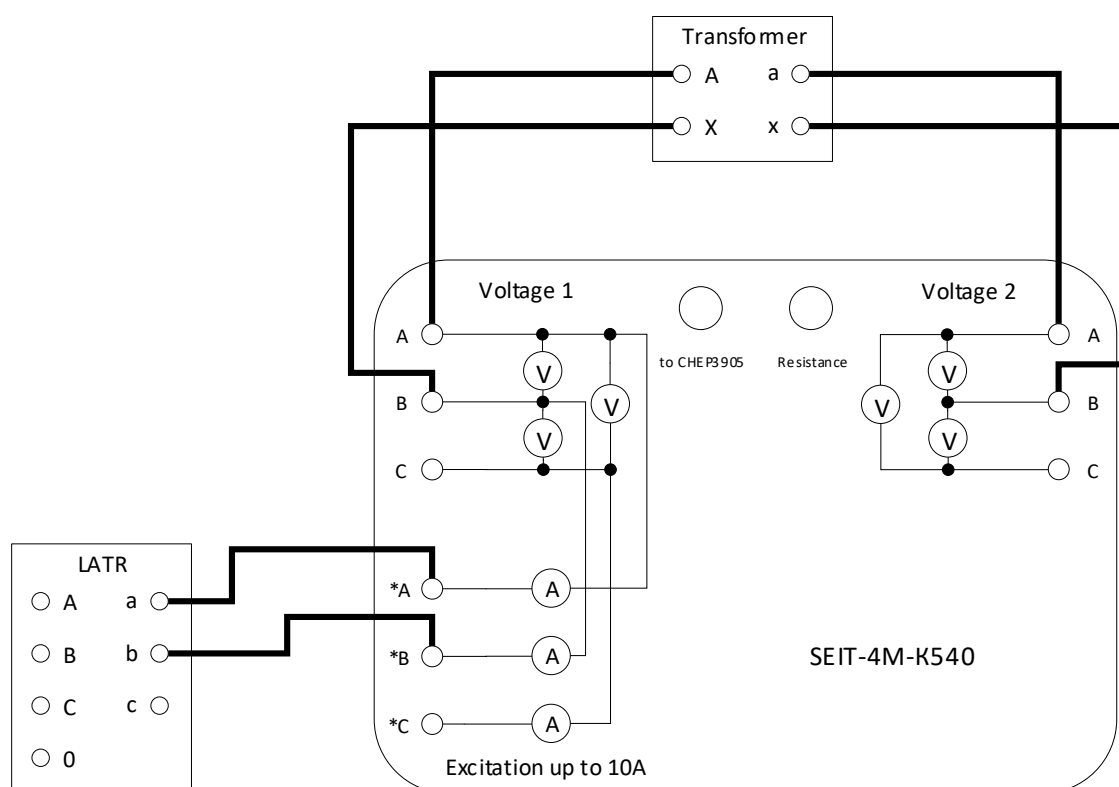

Fig. 8. Single-Phase Transformation Ratio Measurement Circuit
5.2.2. When working with a single-phase transformer, assemble the circuit shown in Fig.8.